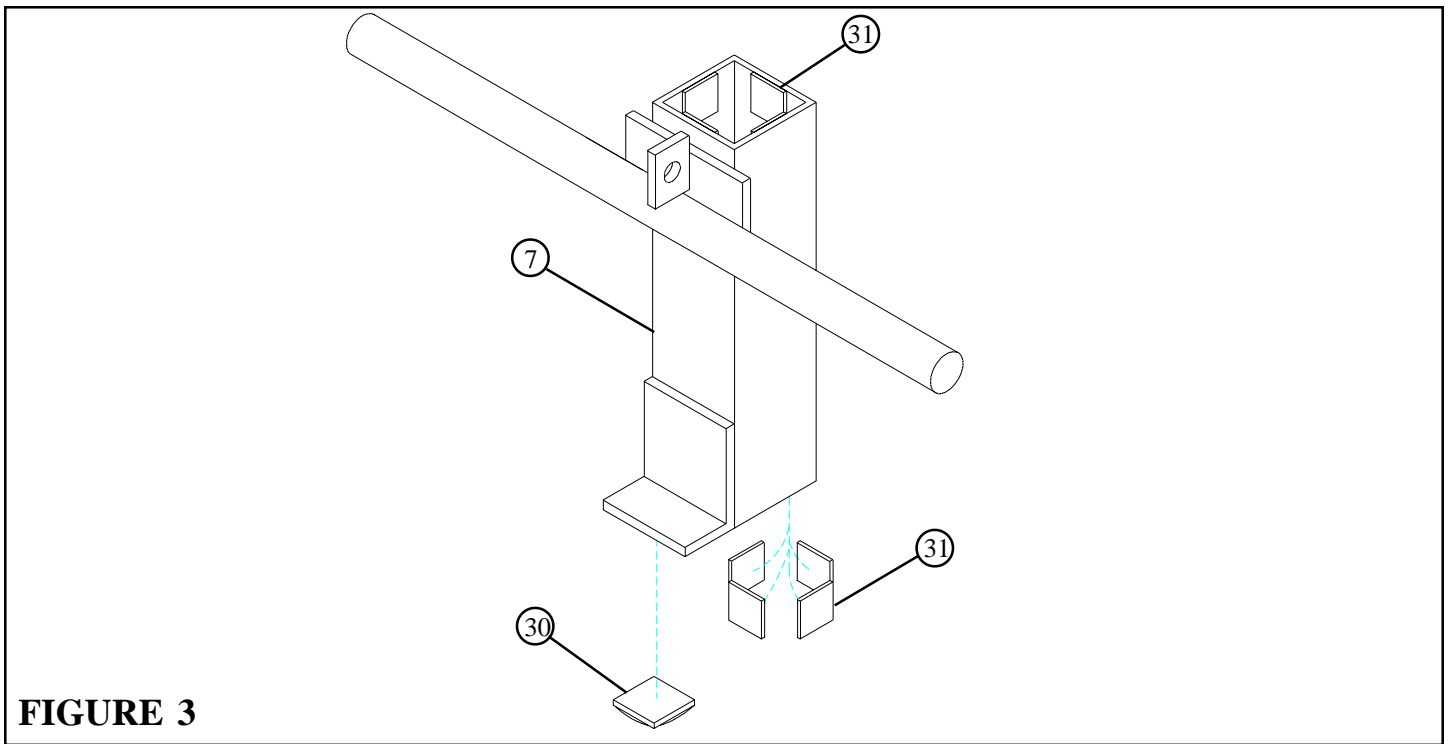

**FIGURE 2**
- Assemble the **LOW ROW ATTACHMENT (5)** and the **LOW PULLEY HOUSING (8)** to the **POWER RACK** using two **3/8 X 3-1/4" BOLTS (19)**, four **3/8" WASHERS (20)**, and two **3/8" LOCK NUTS (21)**. See **FIGURE 2**.
- **SECURELY** assemble the **UPRIGHT (1)** to the **LOW PULLEY HOUSING (8)** using two **1/2 X 3" BOLTS (24)**, two **1/2" WASHERS (25)**, and one **1/2" LOCK NUTS (26)**. See **FIGURE 2**.